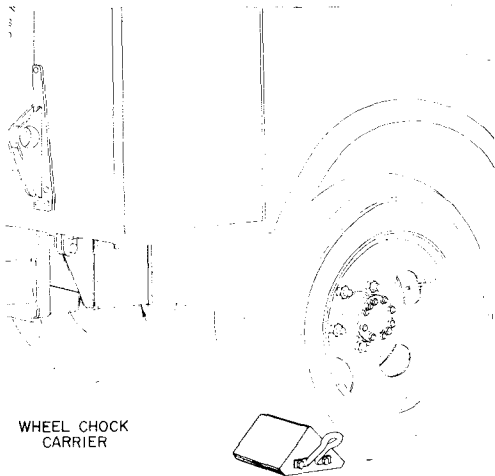

Fig. 2—B Wheel Chock in Place
- 2.11** In placing the chock, stand at the side of the truck, holding the chock by the handle in one hand and resting the other hand against the body of the truck. Place the chock with the large face on the ground, centered directly behind the tire. If the truck is equipped with dual rear tires, place the chock behind the outside tire as shown by Fig. 2.